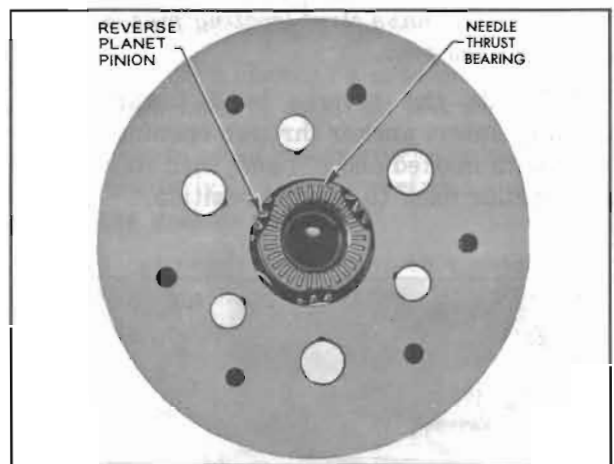

Figure 5-94—Reaction Gear Thrust Washer in Place
10. If end play is not within the specified limits, remove reaction shaft flange, clutch assembly, and the thrust washer located between the reaction gear and the reverse sun gear. See figure 5-94.